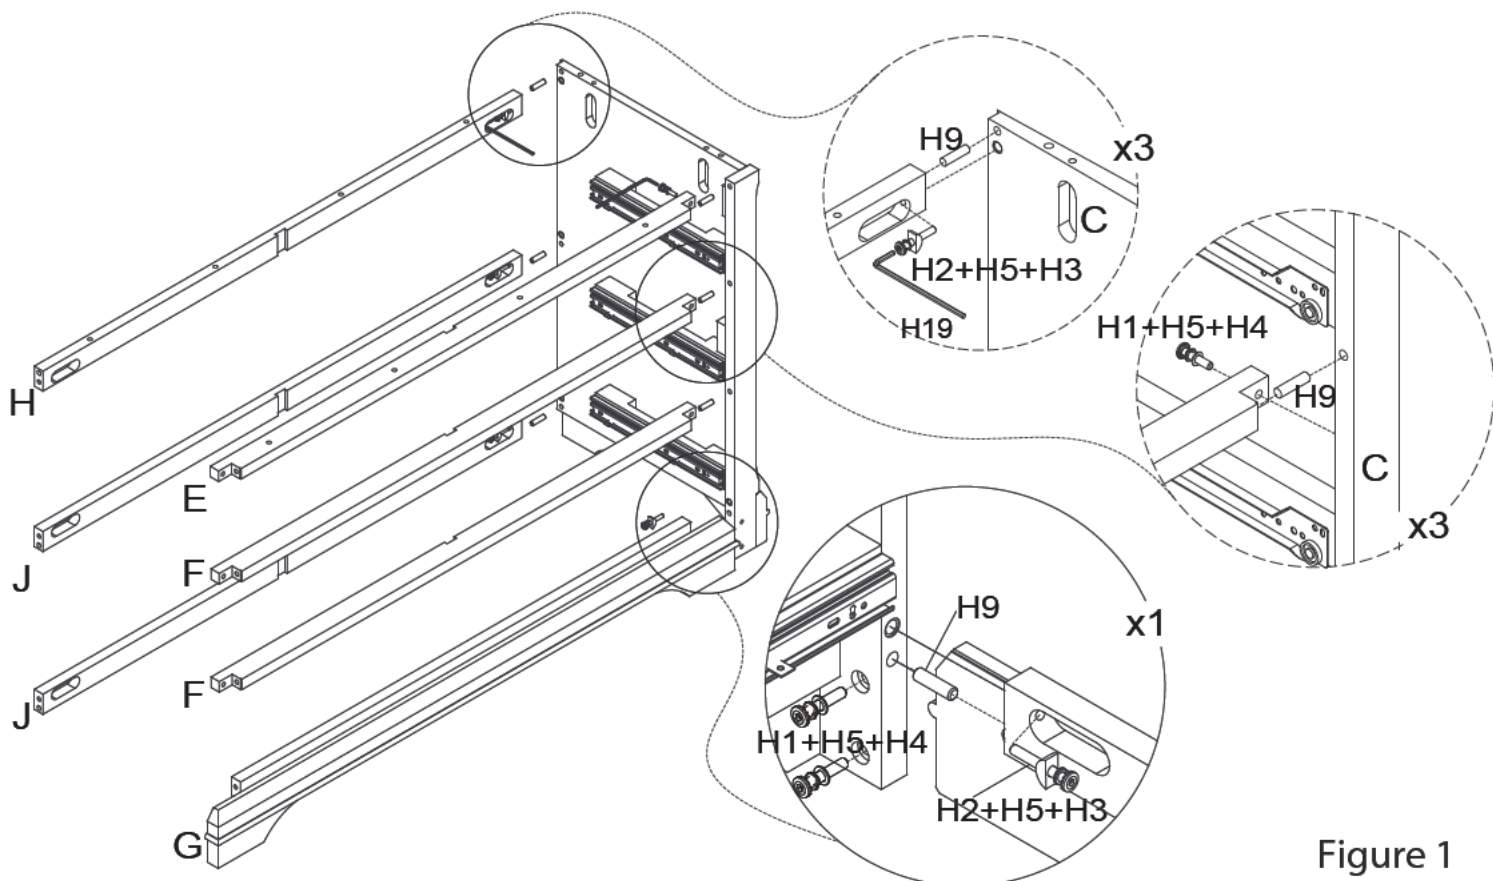

Figure 1
1. Insert 7 wooden dowels (H9) into holes on right outer wall (C). Place back rails (H & J) and front rails (E & F & G) onto right outer wall (C). securing with 4 bolts (H2) + Spring washer(H5)+half moon washer(H3) and 5 bolts(H1)+Spring washer(H5)+flat washer (H4) as show on figure 1.
1. Working on a padded flat surface, attach Drawer Sides (R2&R3) to Drawer Back (R4) as Figure1